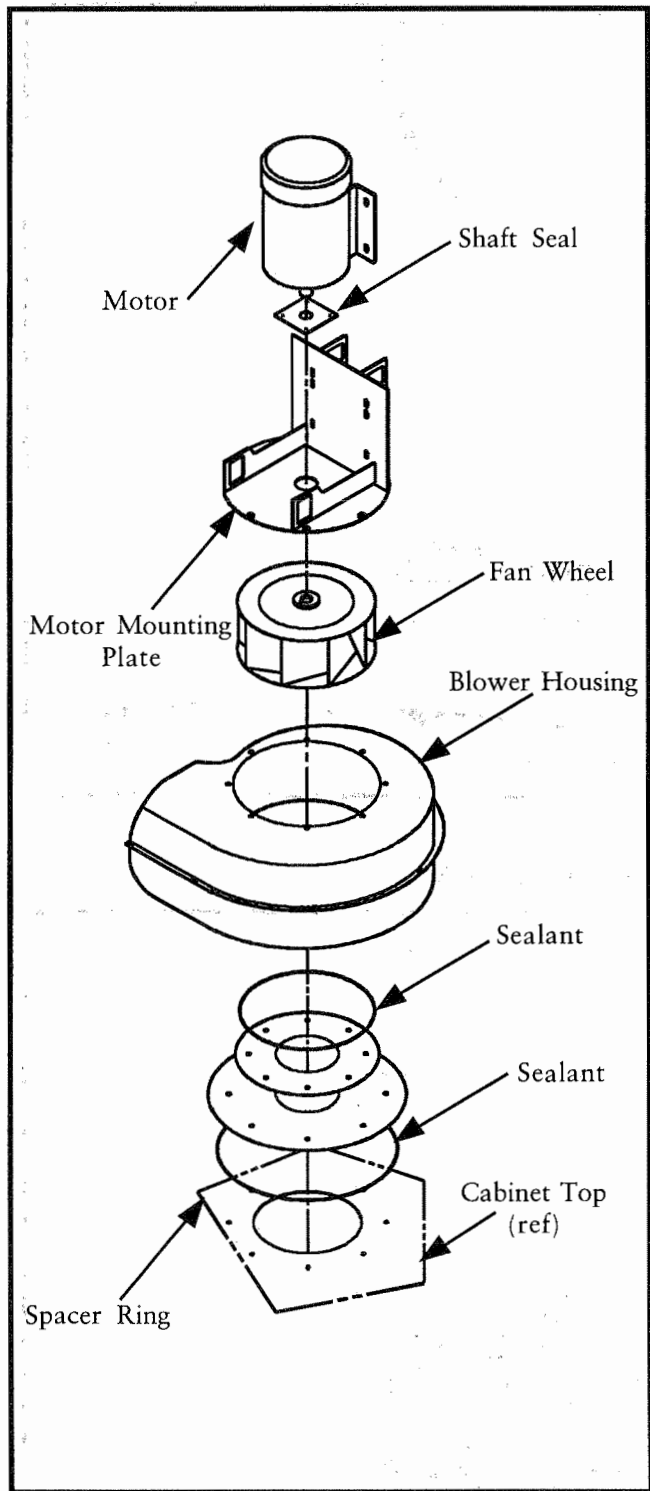

Figure 10
2.6.4 Blower Fan Mounting Instructions (5, 7-1/2, and 10 hp) (See Figure 10)
4. Mount the blower housing using bolts, flat washers, lockwashers, and nuts as shown in Figure 10.